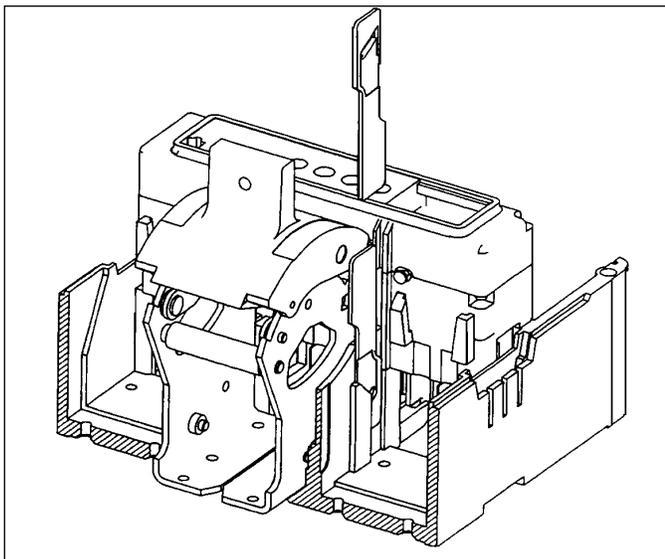

Figure 2-2 Interphase Barrier Replacement
- 2-5. Remove interphase barrier between accessory-mounting cavity and operating mechanism (see Figure 2-2).
- 2-6. Rotate 180° and reinstall interphase barrier in base (see Figure 2-2).